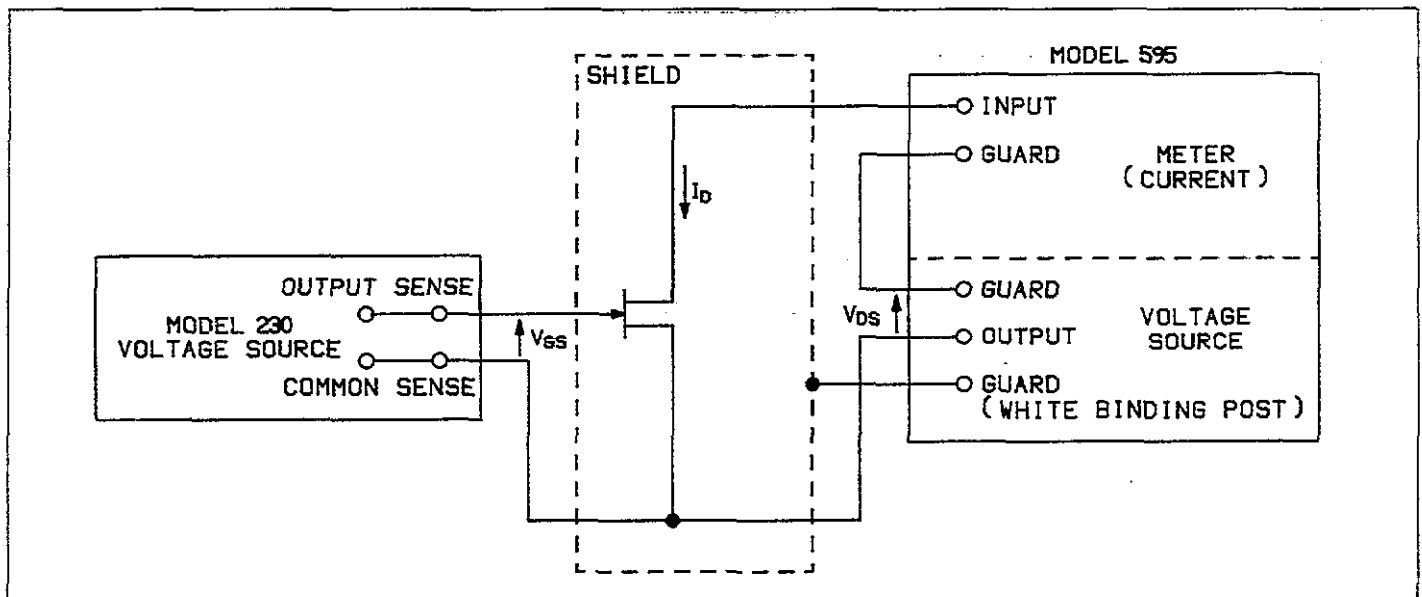

Figure 5-5. Connections for Common-Source FET IV Characteristics
**Common Source Characteristics:** The procedure for measuring the common source characteristics of a FET is very similar to the one just discussed. A setup to perform these measurements is shown in Figure 5-5.